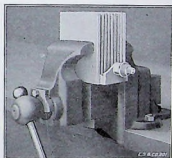

Fig. 31. Straightening Plates
- Negative Plates** The negative plates are nearly always in good condition mechanically, as they are not affected by abuse as readily as the positives. If the positives are buckled, the negatives will be also; but if in a charged condition, can be readily straightened as follows: Place boards of suitable thickness between the plates and outside of the group and slowly apply a gradual pressure. This is best done in a vise, leaving the pile in the vise for some minutes during the operation to give the plates a chance to straighten without undue strain (Fig. 31). If the battery has been badly abused, "starved" or neglected, the negatives may have shed material; in this case it is best to use a new group. If the negative material is very hard and not spongy, it is "sulphated," and particular care should be used that the subsequent charge is carried to maximum gravity.